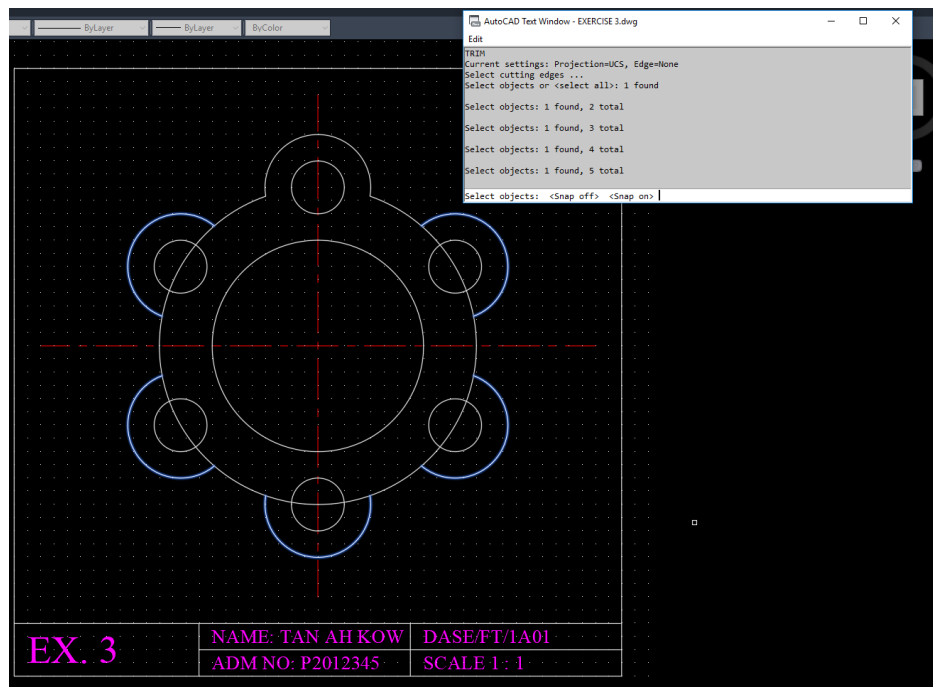

Fig 29
- xxvii. Type = **tr** and the select cutting edges=**click on the outer bolt hole** as shown in blue in Fig 29.